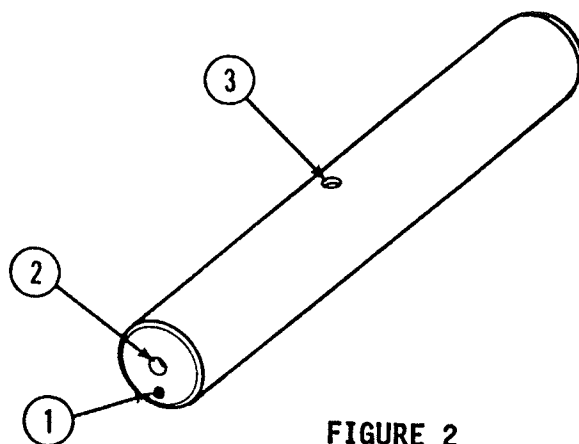

FIGURE 2
2. On new or reused pins, mark an index mark on the lube hole end of the pins on the opposite side of the cross-drilled hole (3-Figure 2).
10. Check that index mark (1-Figure 2) is at the bottom. The lube holes (2) must all face the same direction.